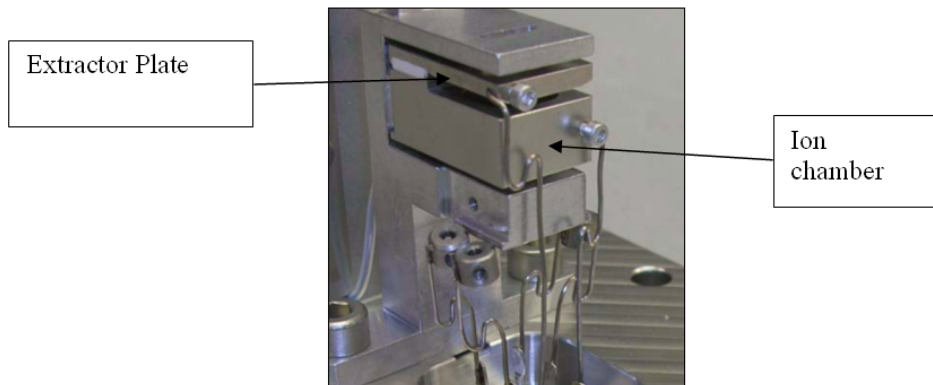

Figure 8: Extractor Plate
19. Insert the chamber and extractor wires into the ion support assembly (Figure 8: Extractor Plate).